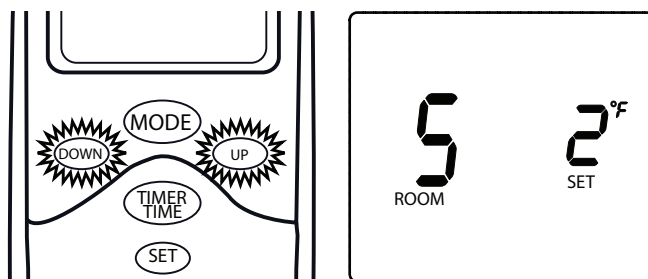

Fig. 18. Setting Swing Temperature
1. To change the temperature “SWING” setting (1-3), press the **TIMER/TIME** and **DOWN** buttons simultaneously (Fig. 18) to display the current “SWING” setting in the SET TEMP frame. The letter “S” will display in the ROOM TEMP frame on the LCD screen.